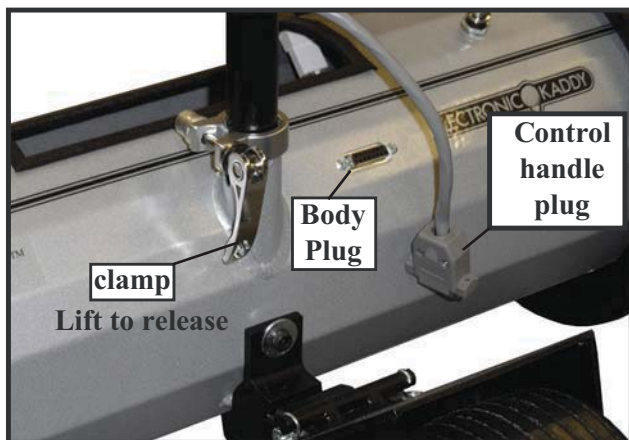

Figure 5
3. Connect the control handle plug to the body plug. The plug is tapered to connect one way only and should require little effort. See figure 5.